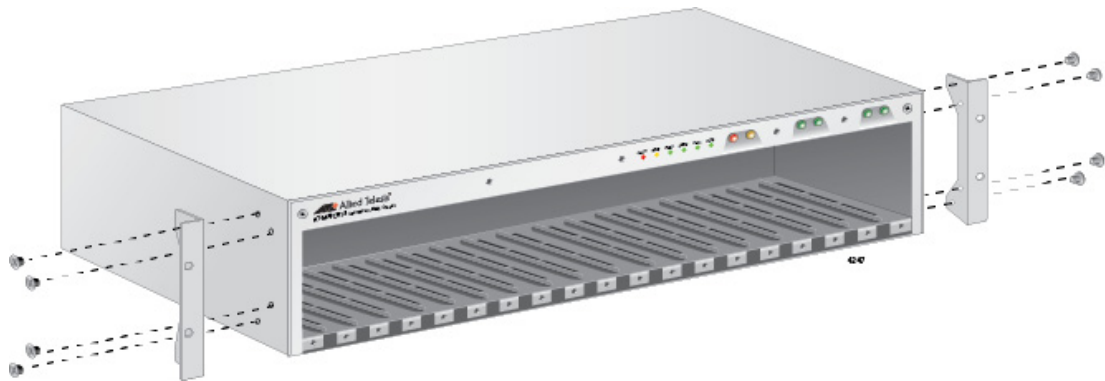

Figure 13. Attaching the Rack-Mount Brackets
2. Attach one rack-mount bracket to each side of the chassis with four screws on each side, as shown in Figure 13.